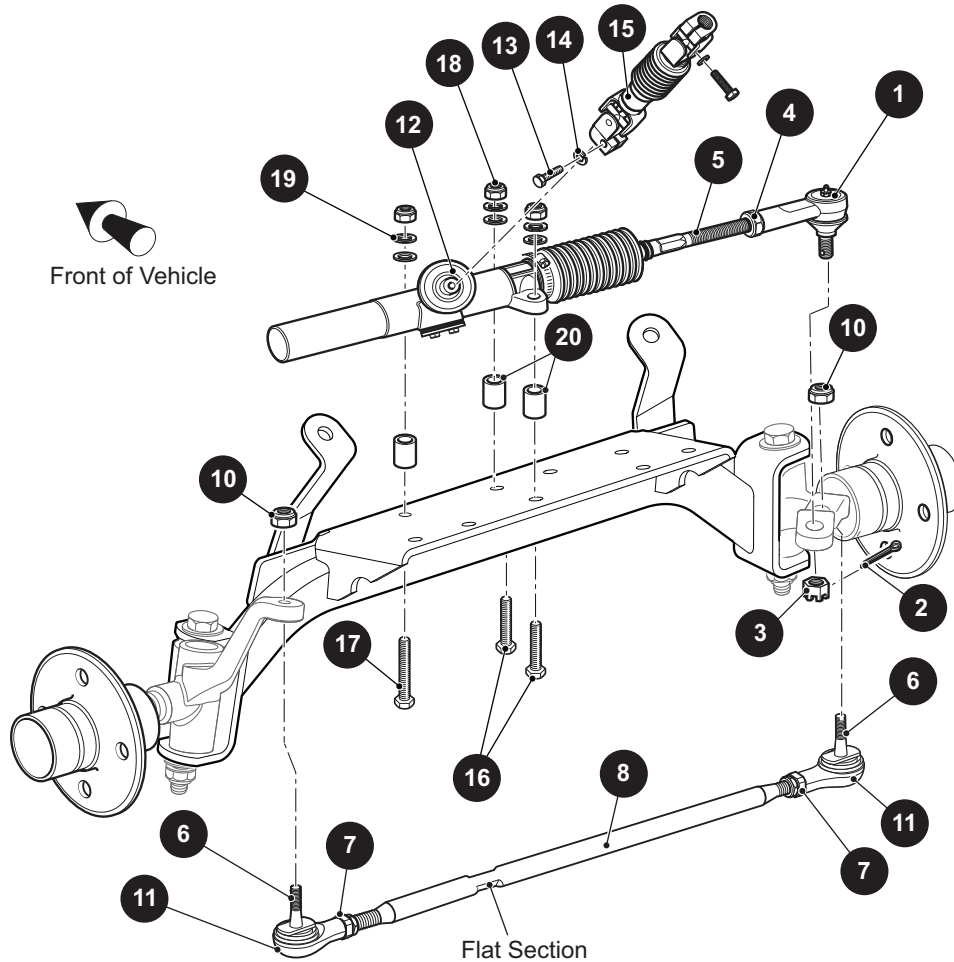

Figure 11 Steering Components
1. To remove the rack ball joint (1), loosen the lug nuts on the passenger side front wheel.
2. Lift and support the front of the vehicle per the SAFETY section (Figure 11).
4. Remove the cotter pin (2) and loosen the castellated nut (3) until the rack ball joint (1) threads are protected. Using a ball joint separator as a lever, apply pressure to the ball joint and tap the nut with a plastic faced hammer to release the ball joint from the spindle arm. Remove the nut from the ball joint and remove the ball joint from the spindle arm.
- Loosen the jam nut (4) and remove the ball joint from the rack extension (5) (Figure 11).
- Attach the ball joint (1) to the spindle arm. Tighten the castellated nut (3) to the torque value specified below. Check to see if a cotter pin (2) can be inserted through the ball joint stud, if the hole does not line up with the slots in the nut, continue to tighten until a new cotter pin (2) can be installed through the nut and stud (Figure 11).
Grasp the tie rod (8) at the ball joints (6) and check for any vertical motion which would indicate a worn condition and require replacement (Figure 11).
- Measure the exposed thread length at the jam nuts (7). Use this dimension to position the rod ends on the new tie rod.